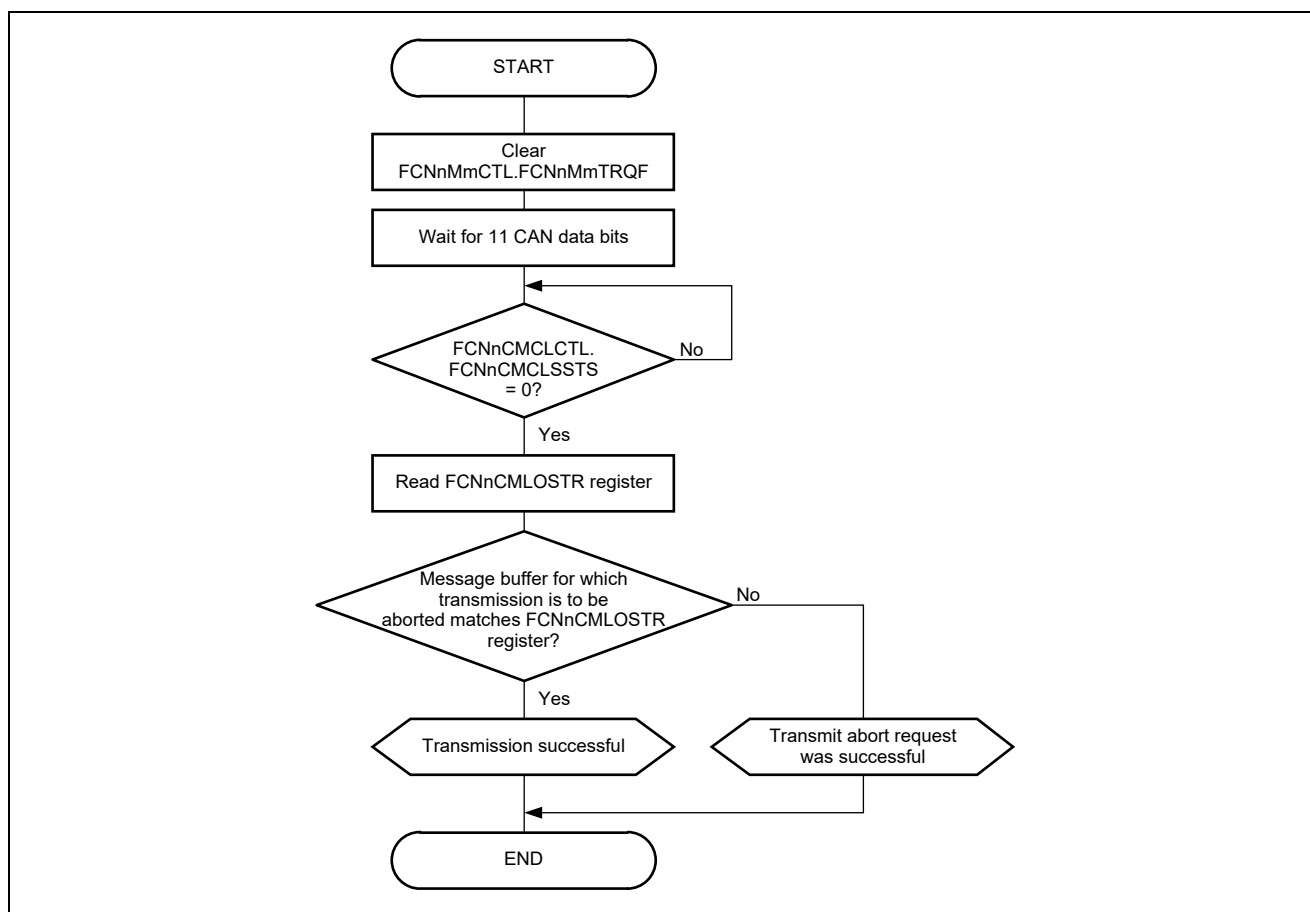
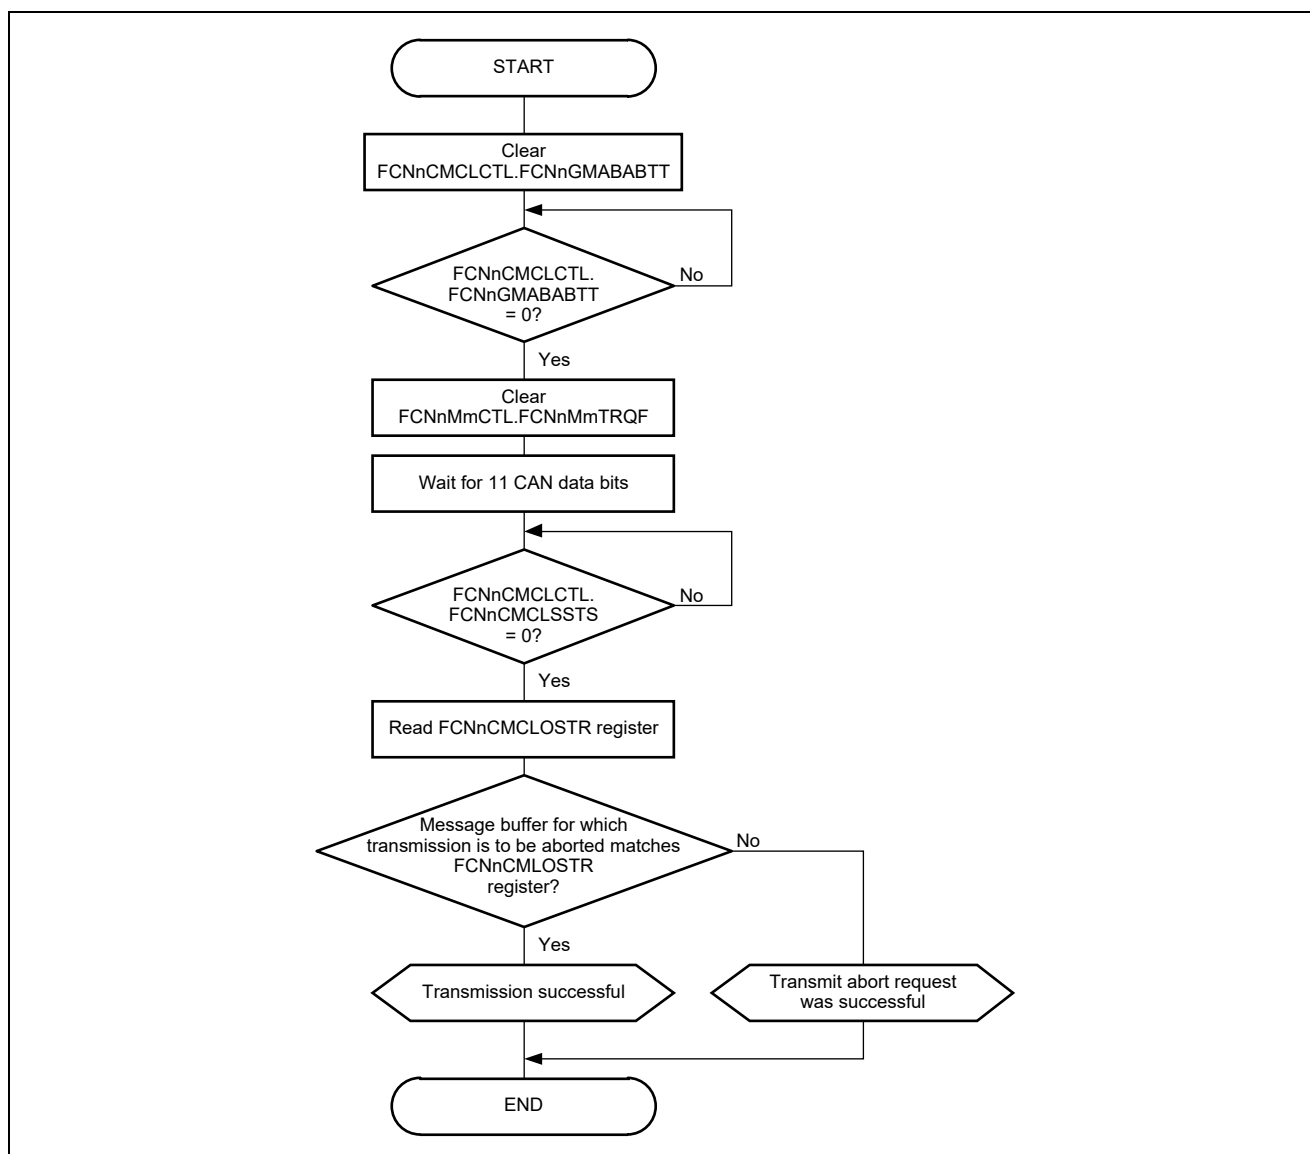
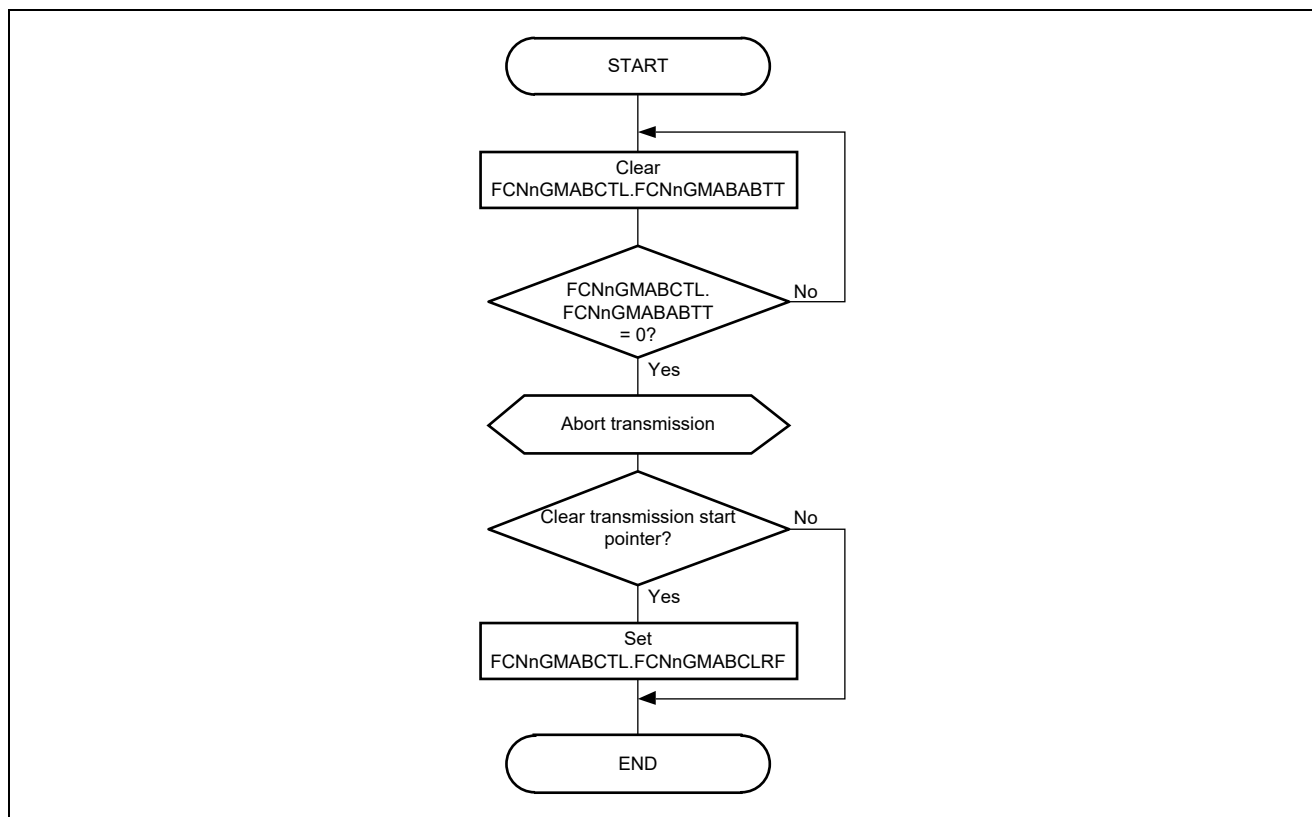
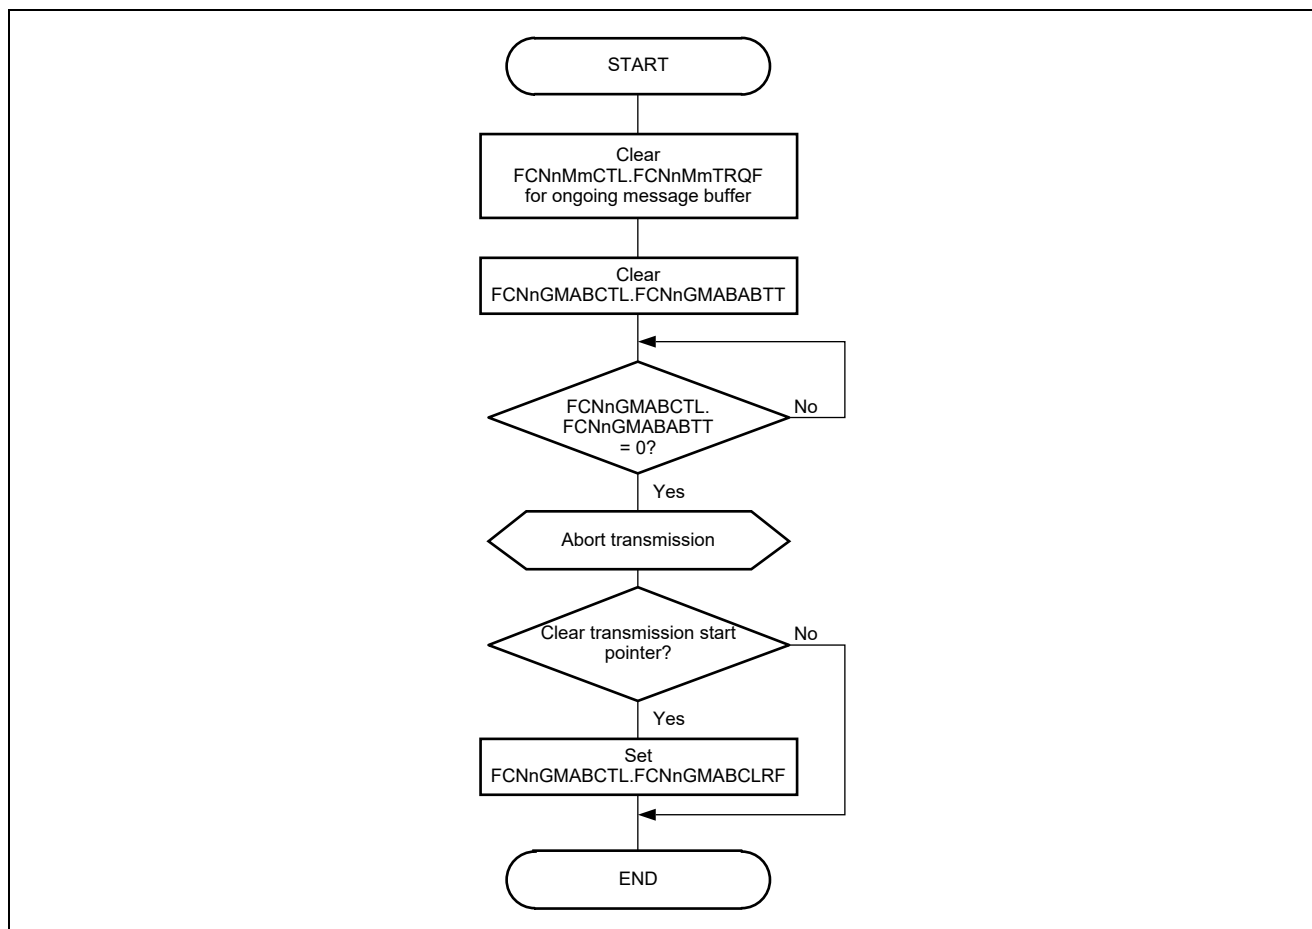

Figure 25.24 Transmission Abort Processing (except when Normal Operation Mode with ABT is being executed)
Figure 25.25 Transmission Abort Processing (in Normal Operation Mode with ABT) – Repeat Option for Aborted Message
Figure 25.26 ABT Transmission Request Abort Processing (in Normal Operation Mode with ABT) (1)
Figure 25.27 ABT Transmission Request Abort Processing (In Normal Operation Mode with ABT) (2)
- In the initialization mode following clearing of all transmission requests according to the transmission abort processing described in Figure 25.24, Transmission Abort Processing (except when Normal Operation Mode with ABT is being executed), during the operation mode (clear all the transmission requests according to the transmission abort processing described in Figure 25.25, Transmission Abort Processing (in Normal Operation Mode with ABT) – Repeat Option for Aborted Message, in the normal operation mode with ABT).
Figure 25.26, ABT Transmission Request Abort Processing (in Normal Operation Mode with ABT) (1), shows the processing which does not skip resumption of message transmission that was stopped when transmission from an ABT message buffer was aborted.
2. Issue a request for transition to FCN sleep mode/FCN stop mode after FCNnGMABCTL.FCNnGMABABTT has been cleared (after ABT mode has been stopped) following the procedure shown in Figure 25.26, ABT Transmission Request Abort Processing (in Normal Operation Mode with ABT) (1), or Figure 25.27, ABT Transmission Request Abort Processing (In Normal Operation Mode with ABT) (2). When clearing a transmission request in the area other than the ABT area, follow the procedure shown in Figure 25.24, Transmission Abort Processing (except when Normal Operation Mode with ABT is being executed).
Figure 25.27, ABT Transmission Request Abort Processing (In Normal Operation Mode with ABT) (2), shows the processing which does not skip resumption of message transmission that was stopped when transmission from an ABT message buffer was aborted.